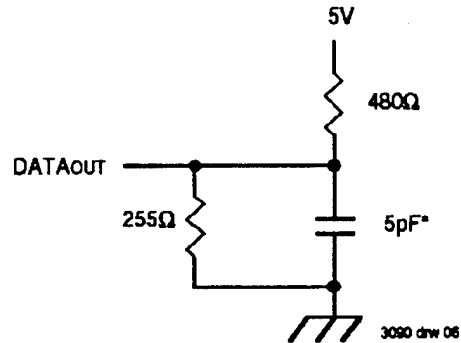

Figure 2. AC Test Load
- This parameter is guaranteed with AC Test load (Figure 2) by device characterization, but is not production tested.